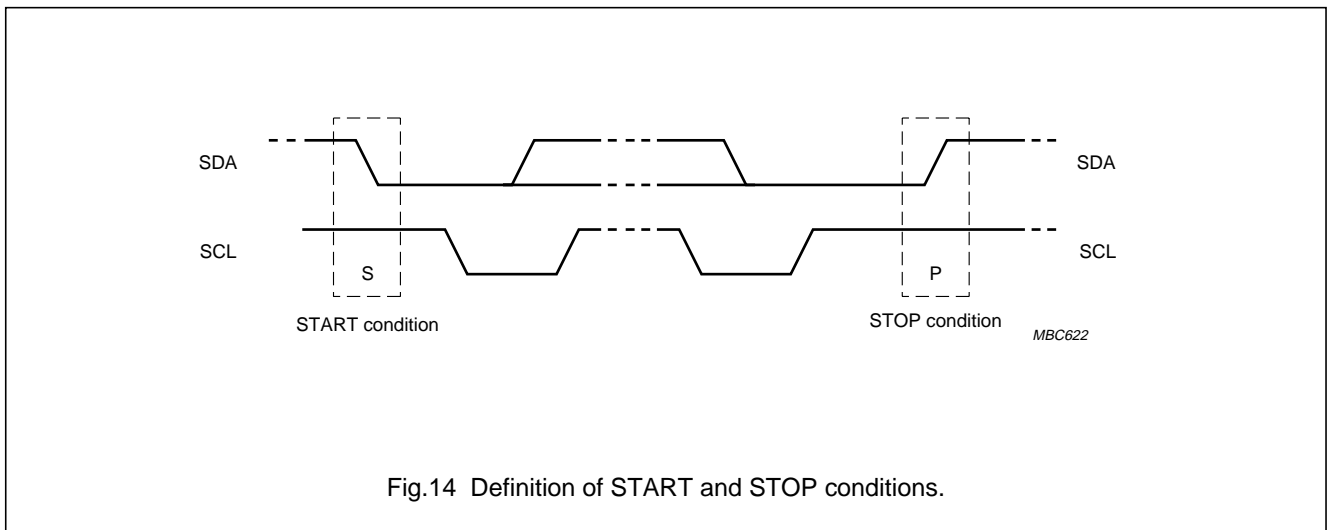

Fig.14 Definition of START and STOP conditions.
Both data and clock lines remain HIGH when the bus is not busy. A HIGH-to-LOW transition of the data line while the clock is HIGH is defined as the START condition (S). A LOW-to-HIGH transition of the data line while the clock is HIGH is defined as the STOP condition (P), (see Fig.14).